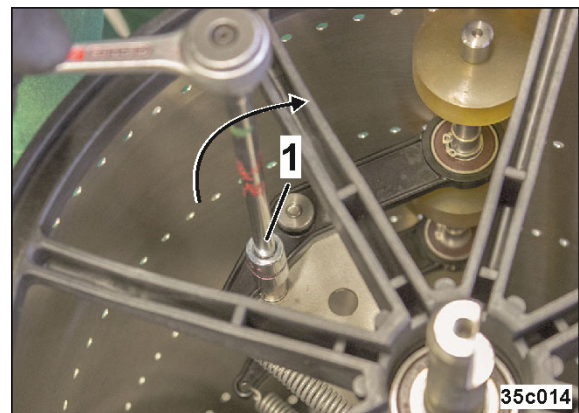

Fig. 328
2. Turn in the relief pins (Fig. 328/1) by approx. half a turn